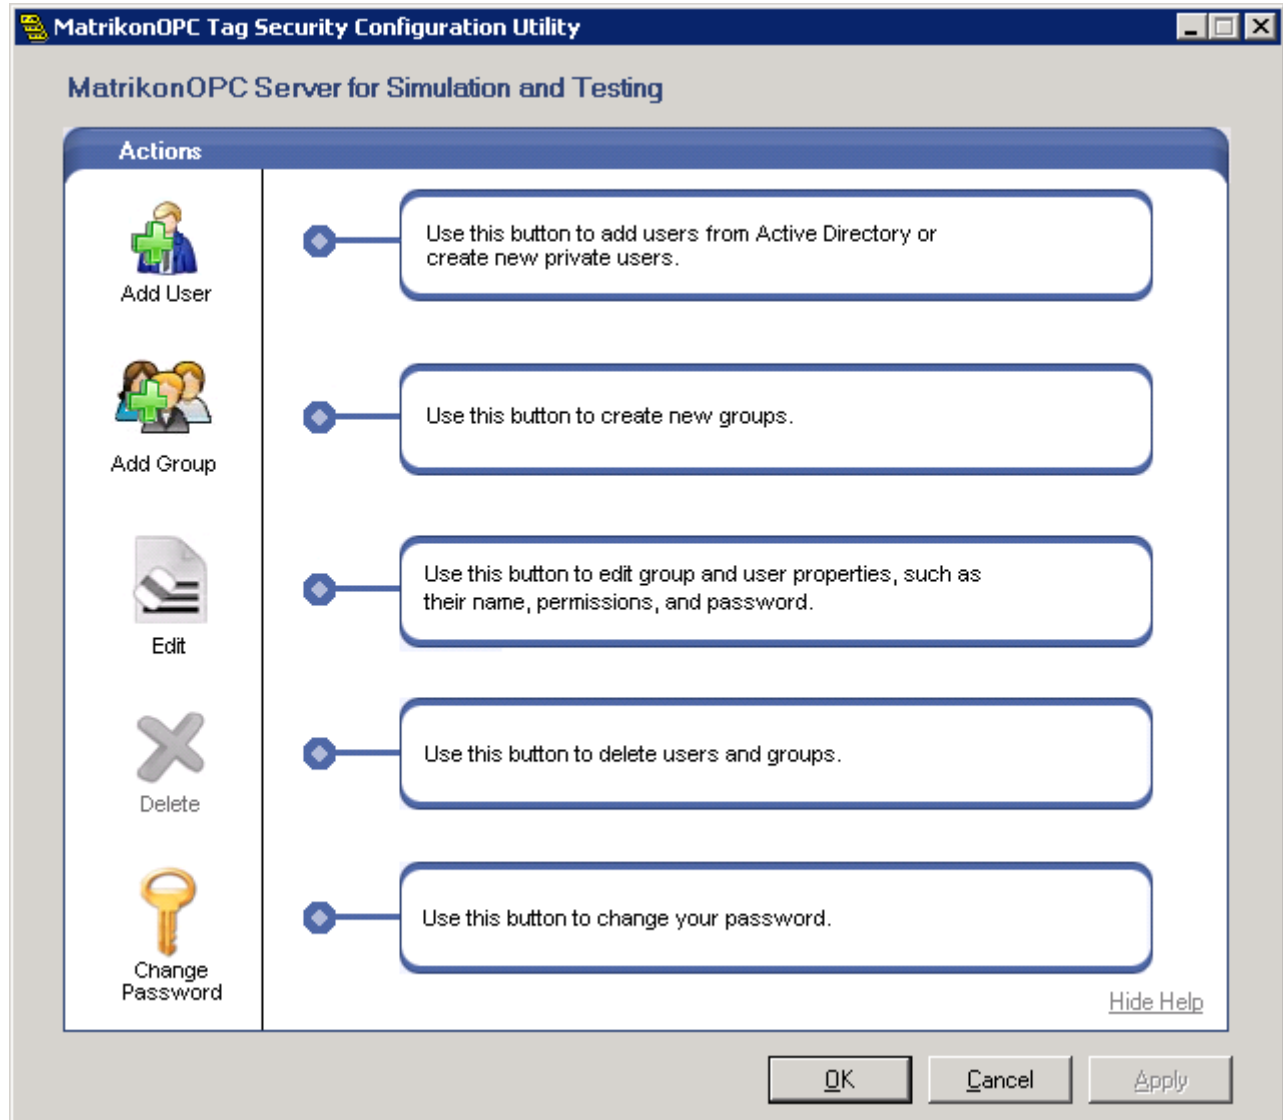

Figure 63 - MatrikonOPC Tag Security Configuration Utility Main Screen
4. The **MatrikonOPC Tag Security Configuration Utility** screen (Figure 63) appears.
The **MatrikonOPC Tag Security Configuration Utility** screen displays the name of the OPC server that is being configured for tag security. In Figure 63 above, the **Utility** screen shows that the **MatrikonOPC Server for Simulation and Testing** tag security is being configured.